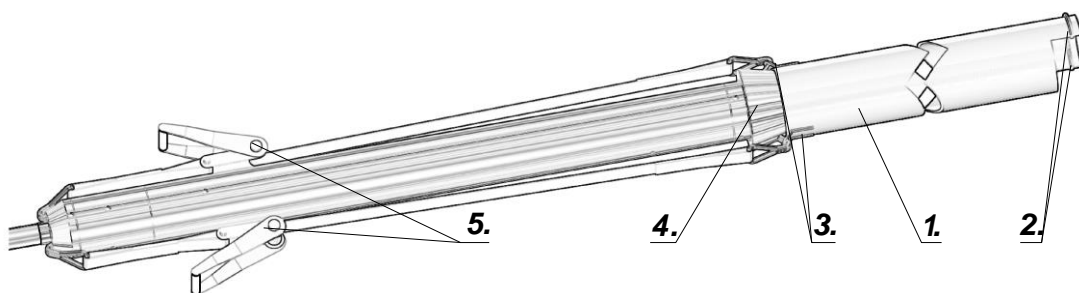

Figure 8.11.1
To ram a steel pipe the following steps should be proceeded (Figure 8.11.1.):
- e) Insert the MAX's head into the cone/cones and fasten it with straps **(5)** to the pipe and to the end of the machine. The straps on one side hold the welded ears on the pipe and on the other side hold the sleeve/end cone of the MAX (see Figure 8.11.1).
- g) Put the lever of the lubricator in a FORWARD (F) position
- k) Put the lever of the lubricator in a REVERSE (R) position.